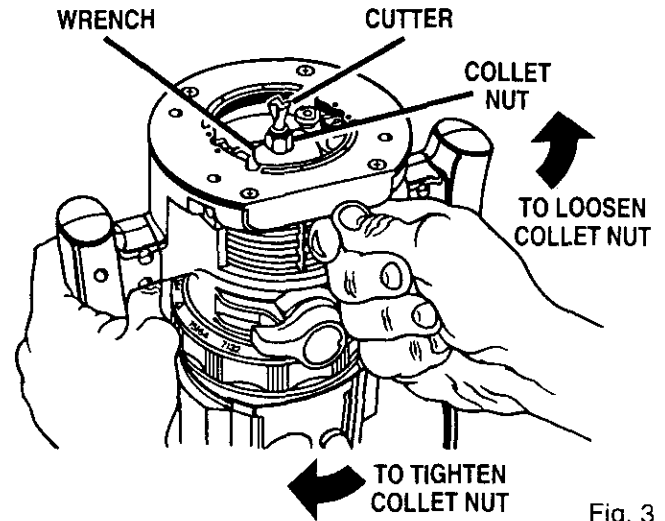

Fig. 3
- Place your router upside down on table, then turn collet nut with wrench until lock mechanism interlocks. See Figure 3.
- Remove cutters by turning collet nut counter-clockwise enough to allow cutter to slip easily from collet. See Figure 3.
■ Tighten the collet nut securely by turning clockwise with the wrench provided. *See Figure 3.*